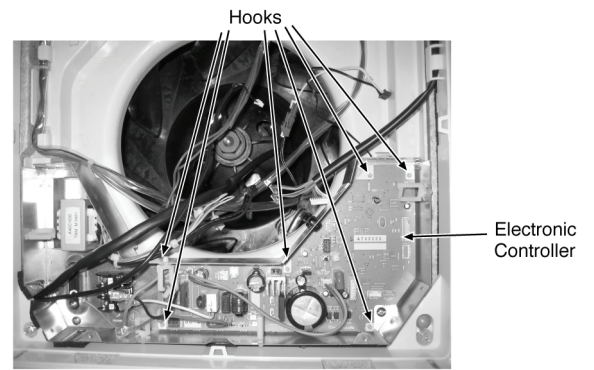

Fig. 4
4. To remove the Electronic Controller, release the 6 hooks that hold it to the Control Board (Fig. 4).